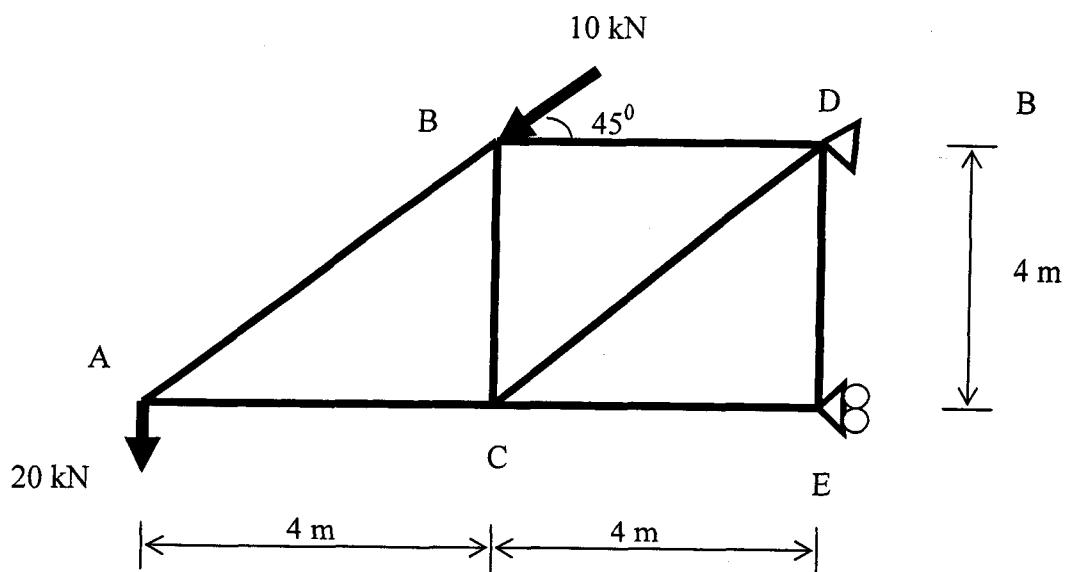

Figure 4.0/Rajah 4.0
- (c) Determine the force in each member of the truss shown in **Figure 4.0**. State whether the members are in tension or compression.